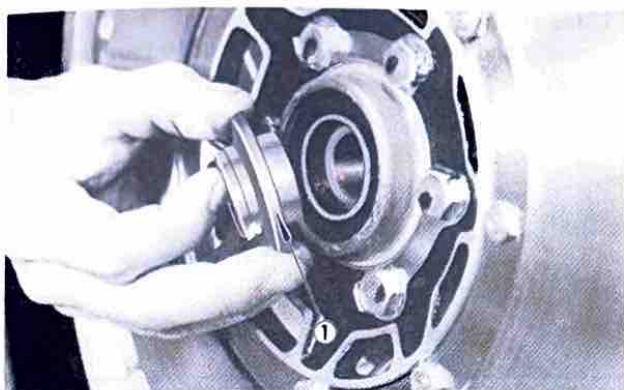

Fig. 14
7. Install the axle collar (6) on the front wheel disc side (right side). (Fig. 14)